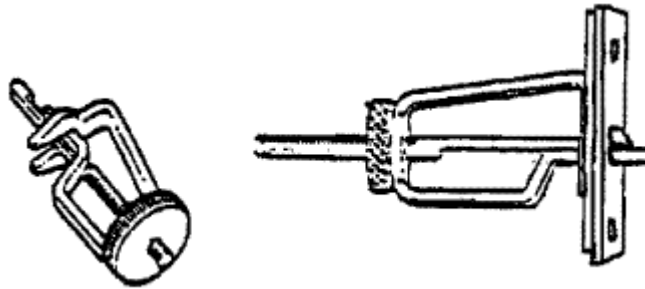

Figure 8-23. Sheet grip pins
- c) To prevent movement during riveting join the surfaces together temporarily using skin or sheet grip pins (**Fig. 8-23**) at regular intervals along the joint.